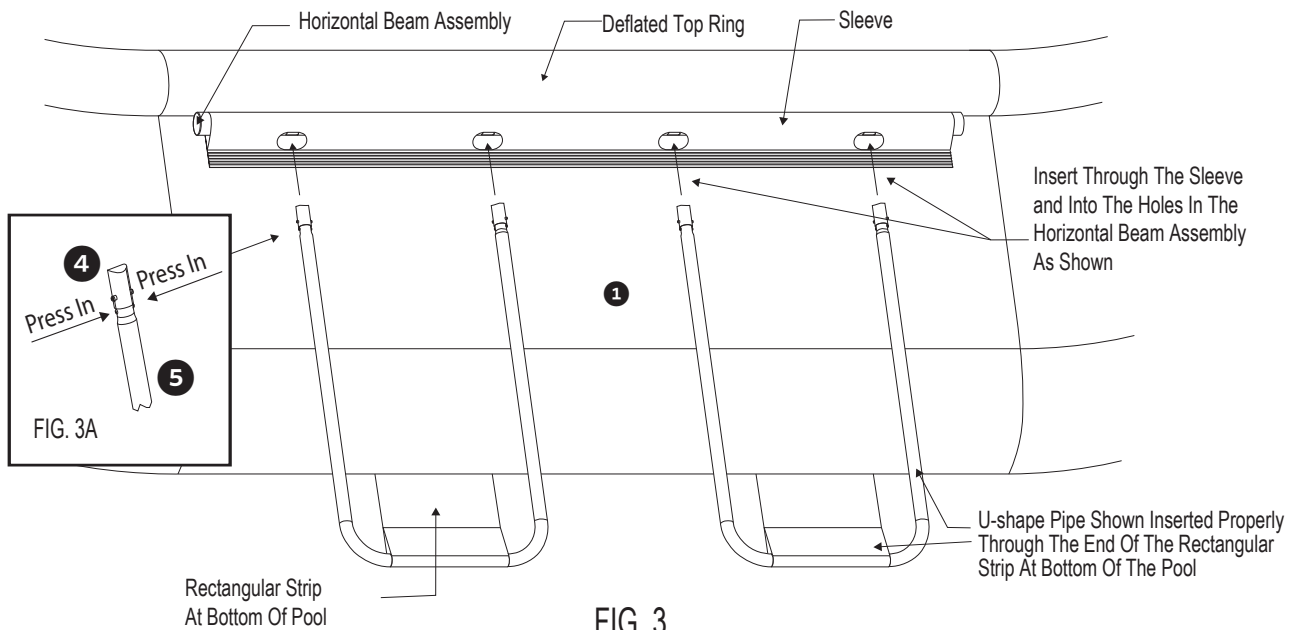

FIG. 3
8. First, insert the two U-Shape pipe sections through the end of the two rectangular strips at the bottom of the pool as shown in FIG. 3.